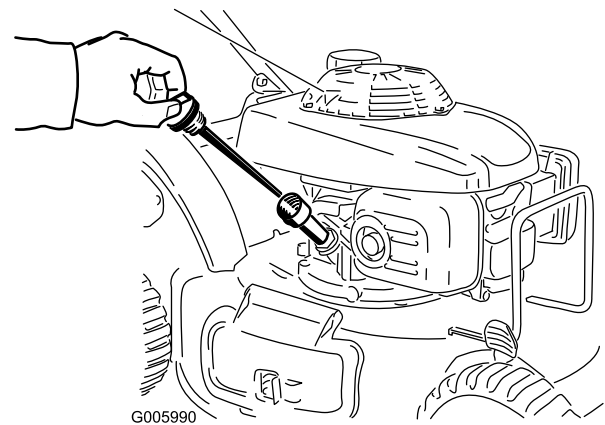

Figure 35
2. Remove the dipstick (Figure 35).
4. **Slowly** pour oil into the oil-fill tube, periodically checking the level with the dipstick, until the dipstick indicates that the engine is full as illustrated in Figure 35. **Do not overfill.**